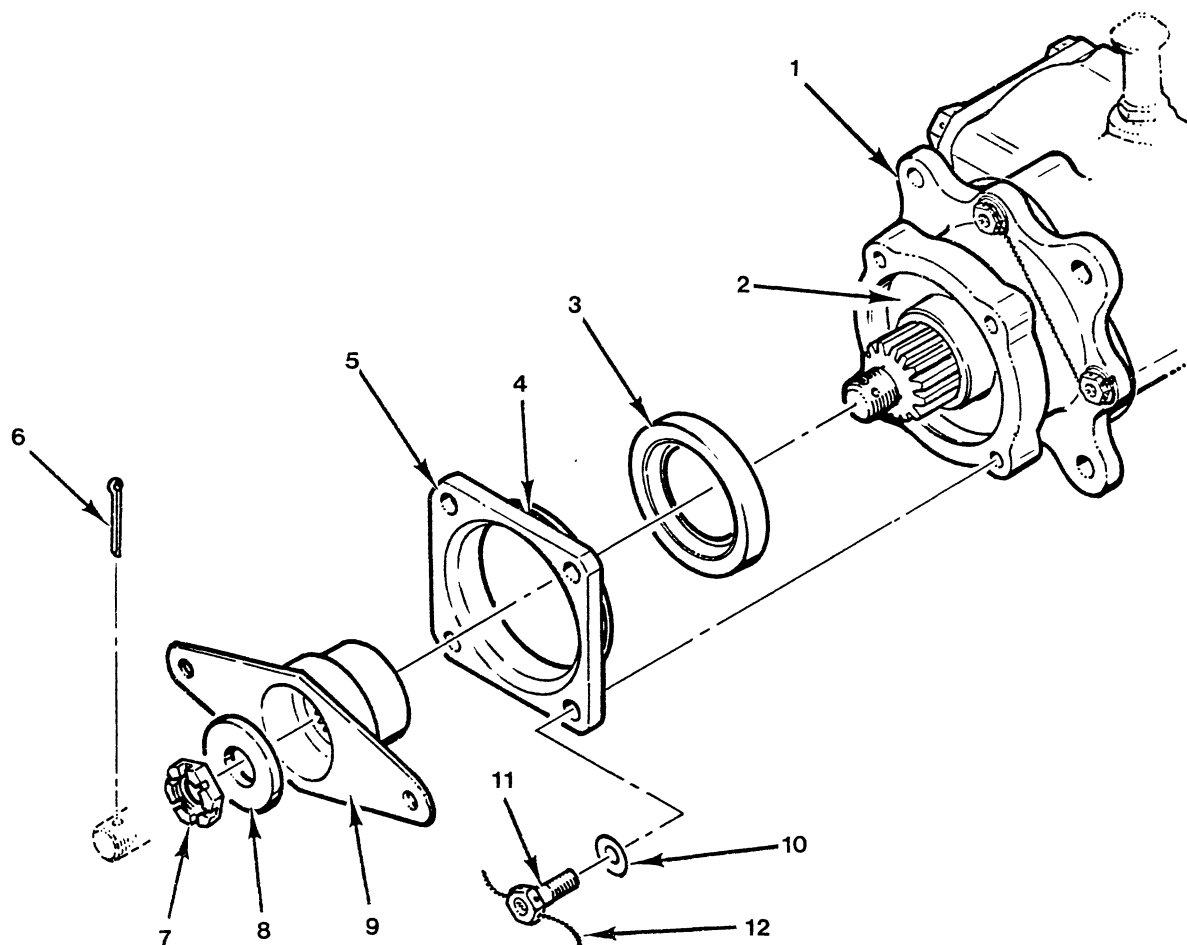

FIGURE 7-13A TAIL ROTOR GEARBOX INPUT SHAFT SEAL REPLACEMENT
**7.450 Tail Rotor Gearbox Input Shaft Seal Replacement (Ref Figure 7-13A)****NOTE**